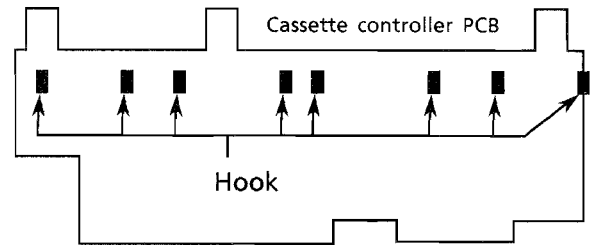

Fig 14
2. Release the 8 hooks to remove the controller PCB (Fig 14).